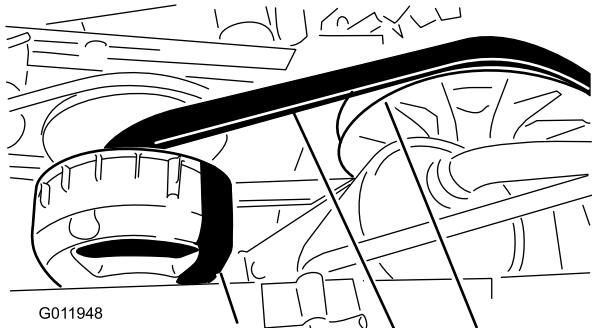

Figure 52
3. Rotate and inspect the belt (Figure 52) for signs of excessive wear or damage.
3. Rotate and route the belt over the secondary clutch (Figure 52).
4. Remove the belt from the primary clutch (Figure 52).
5. Align the new belt over the primary clutch (Figure 52).
6. Rotate and route the belt over the secondary clutch (Figure 52).